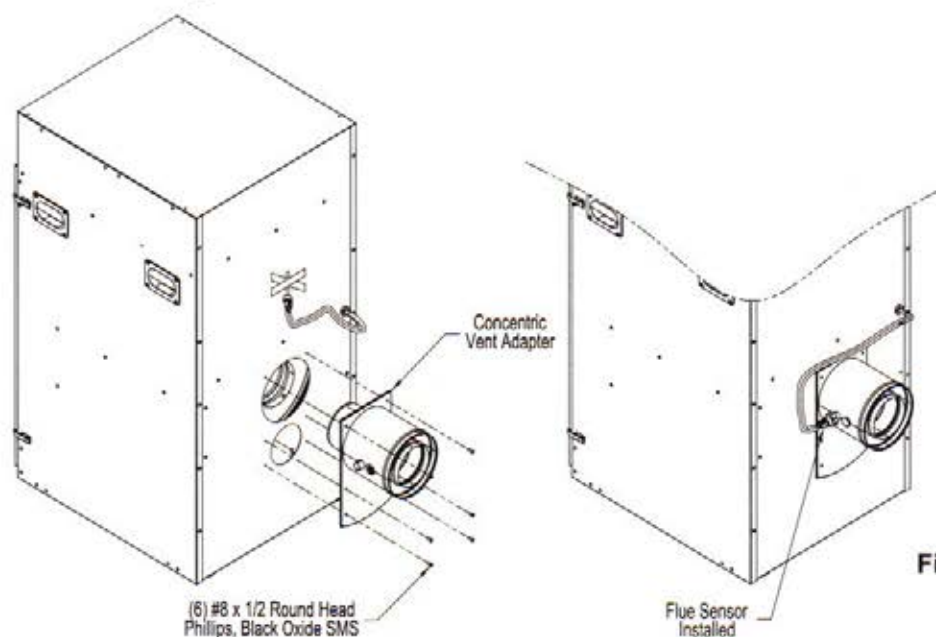

Figure 17: Field Installation of Boiler Concentric Vent Collar
- c. Align collar plate clearance holes with rear/bottom panel engagement holes; then secure the collar to rear/bottom panel with six mounting screws. See Figure 17.
- e. Remove the tape and push the sensor rubber plug into Concentric Vent Collar sensor port until the plug is securely engaged. See Figure 17.